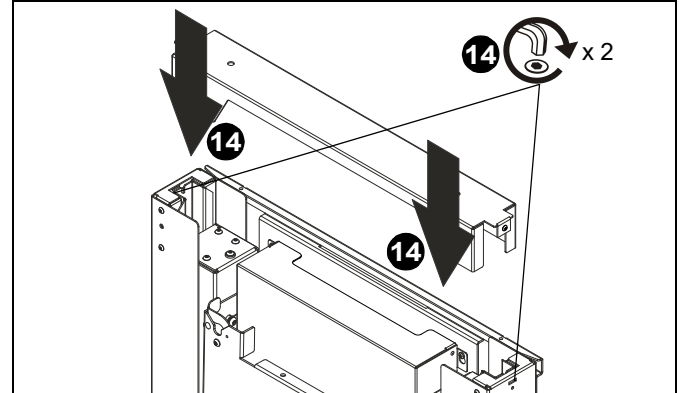

Figure 29
14. Re-install top cover and tighten button head cap screws to secure it in position. (See Figure 29)